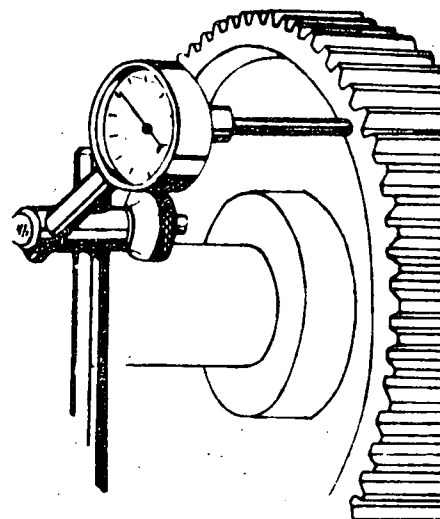

Fig. 4
- b) Place the contact rod of the indicator until it touches the side of the gear (Fig. 4).